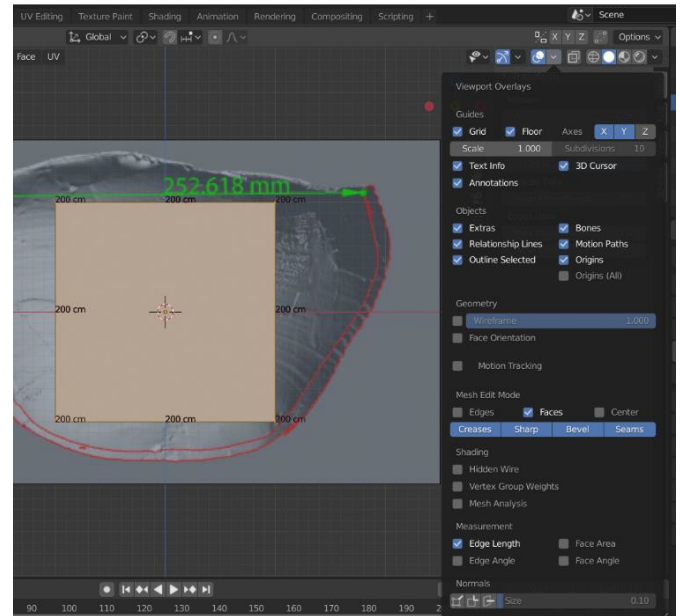

Figure 16
11) To better understand this press **Shift+A** and add a cube from the **Mesh** options. Go to **Edit Mode** by pressing **Tab** on your keyboard. Check the **Edge Length** from the **Viewport Overlays** menu (Fig. 16) and the size of each edge will appear (200 cm).